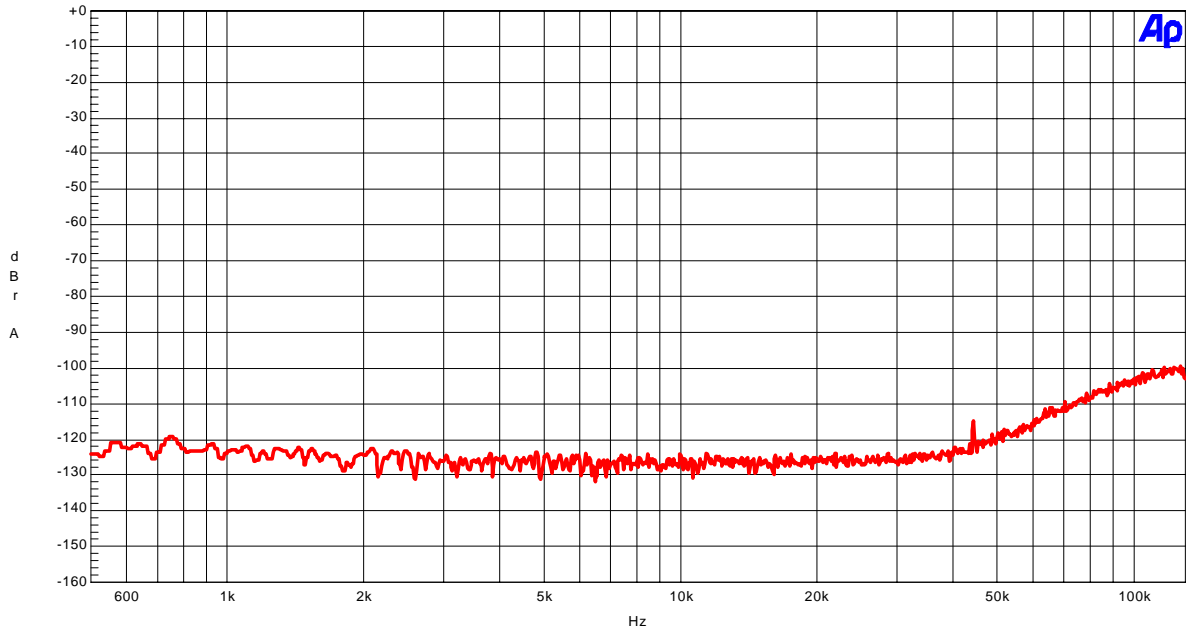

Figure 1-9. FFT (out-of-band noise)
- Figure 1-9. FFT (out-of-band noise, ~130kHz)